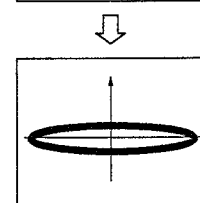

Fig. 2
4. Fine-adjust the grating so that the Y-axis amplitude of the Lissajous figure is minimized. (Fig. 2)
9. Re-open the TRKG servo and observe the Lissajous figure to check that the Y-axis amplitude is minimum. (Fig. 2)